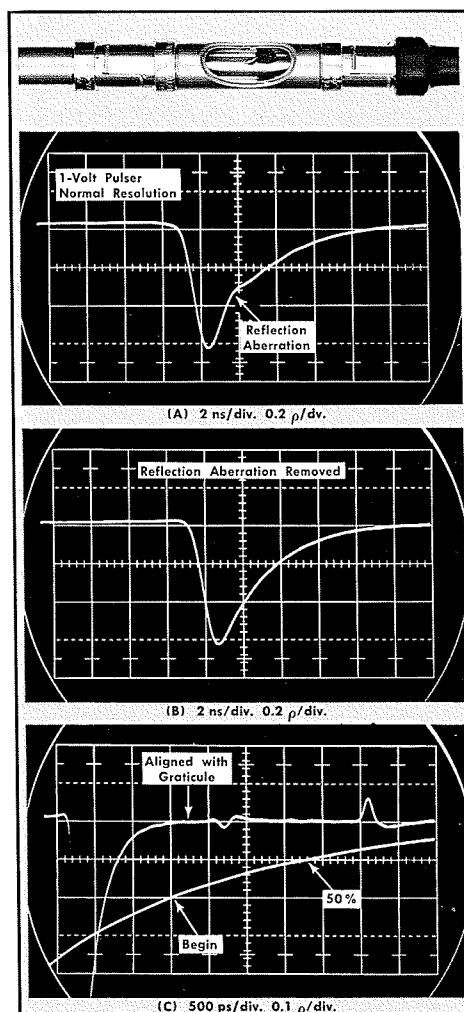

Fig 12. Example of moving display reflection aberrations to obtain a "clean" exponential curve.
For example, a 100 pF discap was soldered into a General Ratio Radiating Line section (Fig 12). The 1-Volt pulser was used; reflections from the pulser distort the exponential curve at the arrow of Fig 12A. The re-reflection is moved to the right just outside the time window by placing a 20 nsec signal delay RG213/U cable between the pulser and the sampler. The acceptable waveform is shown in Fig 12B. Fig 12C is a double exposure that shows first how the "end" of the exponential curve is set to a graticule line. Then the display is time expanded to 500 ps/DIV (leaving the vertical position as adjusted) and the new arbitrary 100% exponential curve is chosen and marked. The capacitor's value taken from the time expanded curve of Fig 12C and using formula (5) is 104 pF ($1.8 \times 10^{-9} / 0.693 \div 25 = 1.04 \times 10^{-10} = 104 \text{ pF}$). Note that the vertical ρ factor was changed for Fig 12C in order to make the time constant measurement from a clean section of the curve near its end.